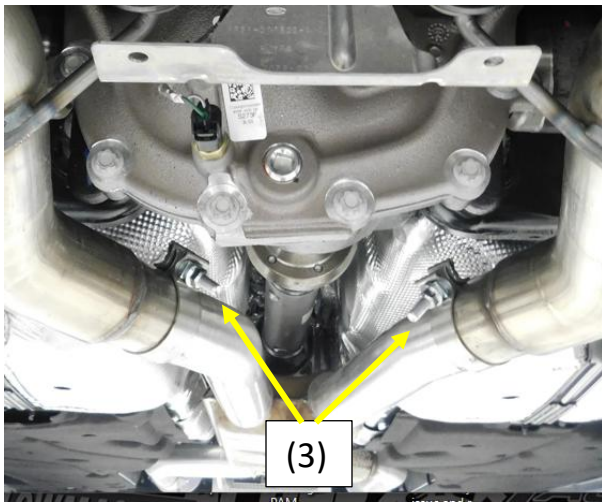

Figure.8
2. Install the supplied band clamp (3) on to the inlet of the Flowmaster Axel Back muffler assembly with the bolt to the inside and nut facing down. **Fig.8**
5. Slip the muffler assembly over the OEM exhaust pipe approximately 3 inches and support the muffler. **Fig.8**